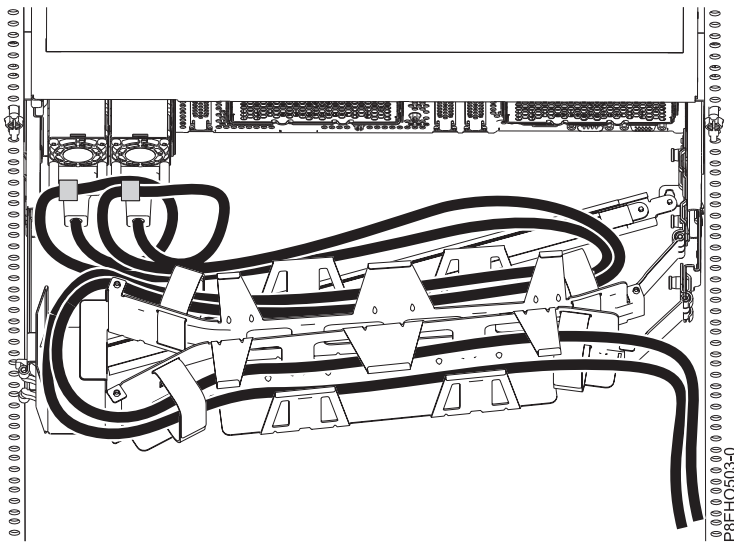
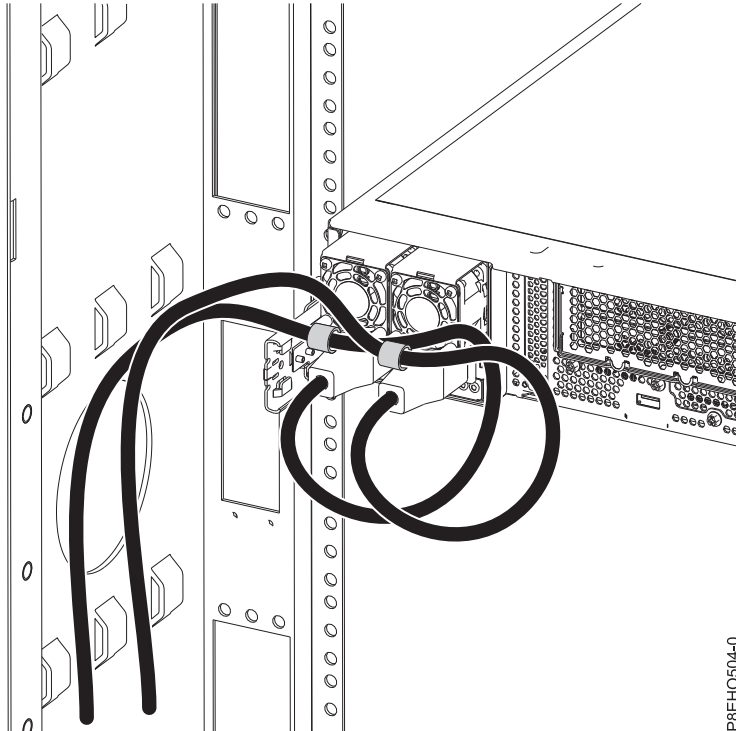

Figure 69. Power cord loop with cable management arm routing. The power cord loops counter-clockwise to the right.
Figure 70. Power cord loop with sidewall routing. The power cord loops counter-clockwise to the left.
3. Label and disconnect the power cords from the power supply handle. Unfasten the hook and loop fastener that ties the power cord to the power supply handle. Note how the power is looped; you will need to make that same loop when you reattach the power cords. There are two types of loops, detailed in Figure 69 and Figure 70 on page 103.